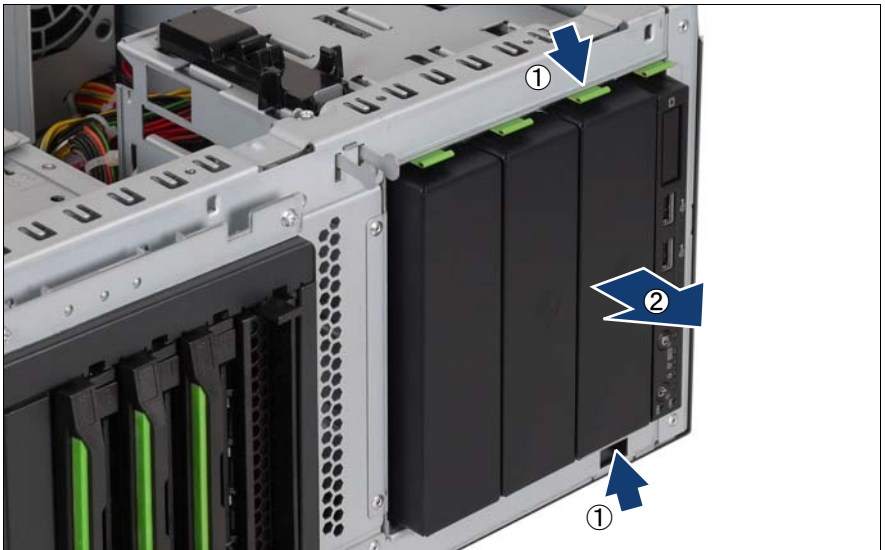

Figure 12: Removing the dummy cover
- ▶ Remove the dummy cover from one 5.25-inch bay for accessible drives (see figure 12 on page 33).